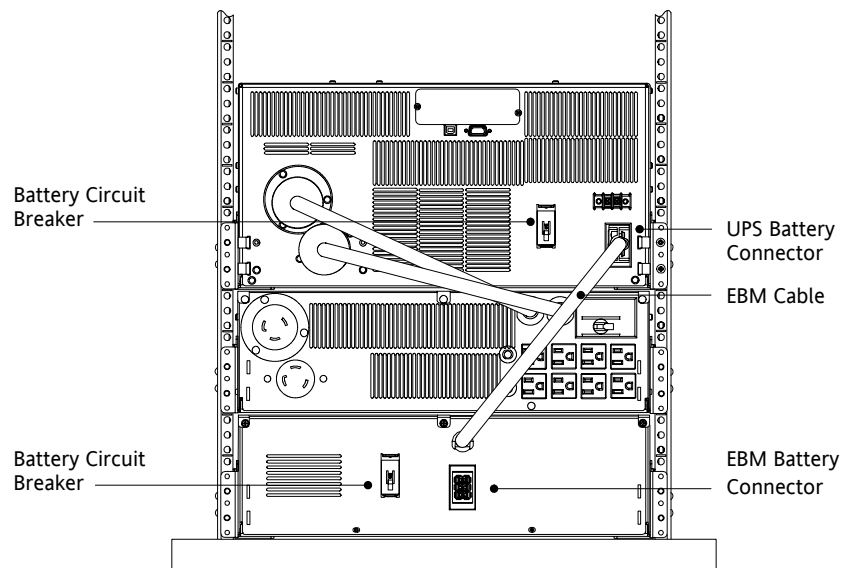

Figure 6. Typical EBM with PDM Installation
1. Verify that all battery circuit breakers are in the OFF (O) position (see Figure 6).